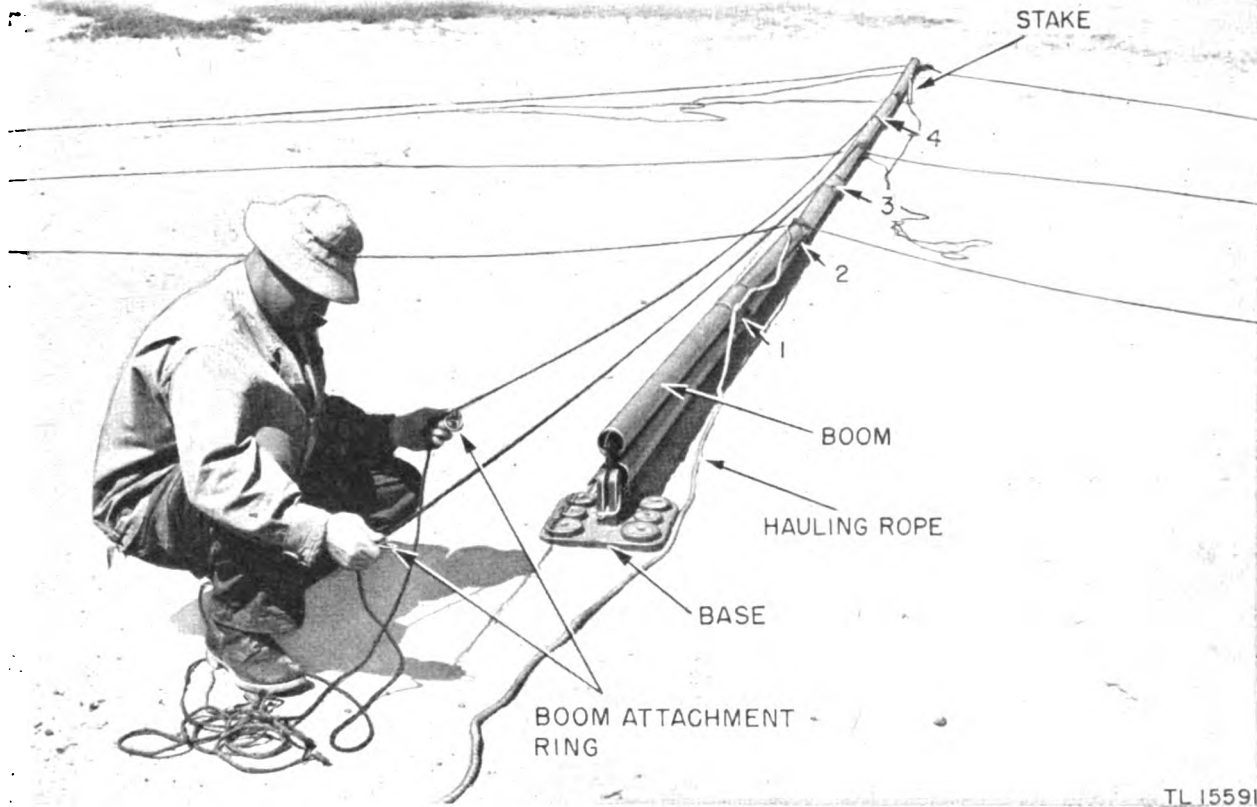

Figure 14. Boom-attachment ring measurement.
(8) Connect the snap hooks on the 50- and 68-foot guys equipped with boom attachment rings to the guy attachment rings at the No. 4 coupling and to the guy attachment holes at the mast cap assembly position, respectively. Run each of these guys down the length of the mast. The boom attaching ring in the 50-foot guy should extend about 3 feet beyond the mast base. The boom attachment ring on the 68-foot guy should extend about 1 foot beyond the base. If these ring positions do not coincide with the figures given, loosen the ring and readjust to the proper position. When properly adjusted, connect the two boom attachment rings to the snap hook at the free end of the boom (figs. 14, 15).